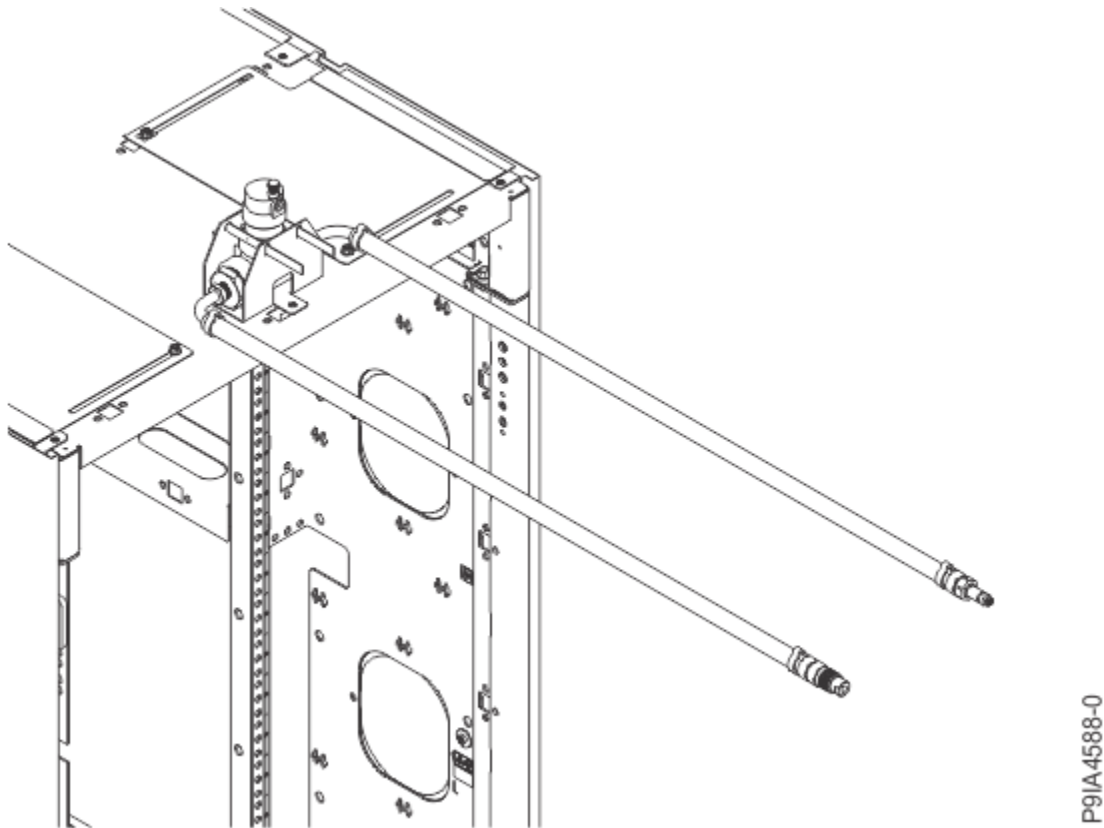

Figure 61. Attaching the bleed tool to the top of the rack
3. Place the air bleed valve on top of the rack and secure it to the top of the rack. A screw must be used to secure the bleed tool to the rack. For more information, see Figure 61 on page 85.